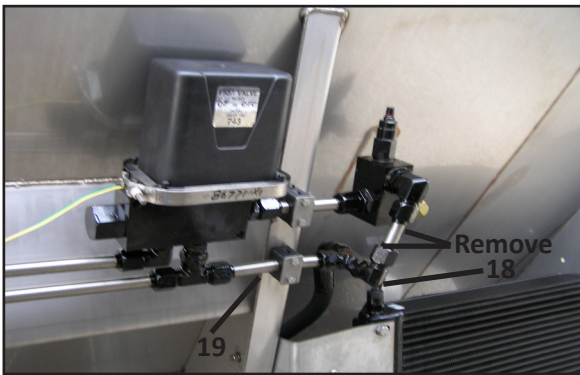

Figure 11A – RH Hydraulics at Front Existing
1. Remove tube and tee shown in Figure 11A and discard.
2. Remove Elbow (18) and reconnect to existing Tube (19).